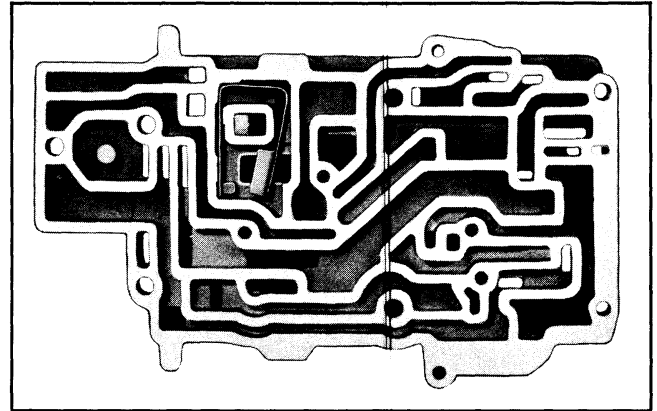

Fig. 7D-139 Coupling Fill Thermostat Installed
1. Install 3-4 governor valve with round end facing out (Fig. 7D-137).